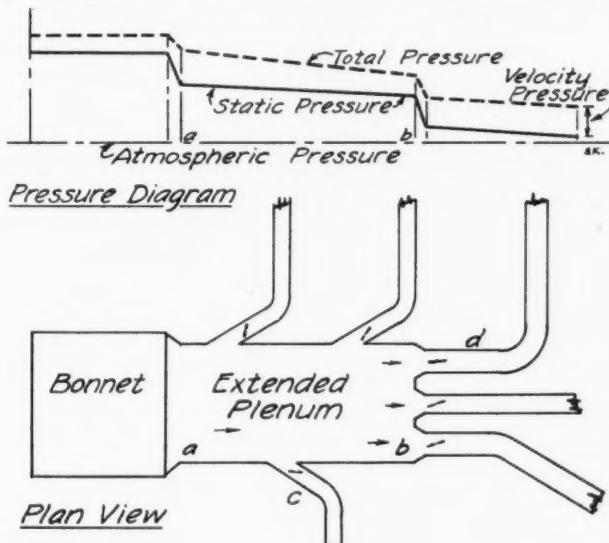

Fig. 2—Extended plenum duct system with simplified pressure diagram.
Sometimes the intake is not in the best position because of appearance. In the installation shown in Fig. 2 it was decided to place the intake below grade with a grille in the sidewalk of an alley. It was known that this would cause heavy dust conditions, but no other arrangement seemed suitable. The amount of dirt, soot, fumes from automobiles, cigarette stubs and other refuse which has entered the intake has been enormous. A fine mesh screen was placed at the entrance, the areaway has been swept clean every other day but after five years the primary heater coils have deteriorated so much from the unusual conditions that they must be replaced. When this is done, it is also proposed to elevate the intake as shown.
In view of the success attending this type of plenum chamber construction, it is not surprising that some installers have extended the idea still further. A diagrammatic plan view of the "extended plenum" duct system is shown in Fig. 2. It may be noted that instead of providing for a gradual reduction in the cross sectional area of the main trunk, the trunk is made of uniform size for some distance away from the bonnet. Since a greater quantity of air passes point (a) than point (b), the air velocity at point (a) must also be greater than that at point (b). In other words, the air velocity in the extended plenum will not be uniform and will be less at the outlet than at the inlet. Hence, the velocity pressure in the duct will tend to become smaller as the air moves down the extended plenum and part of the decrease will result in an increase in the static pressure. That is, the regain in the static pressure will result in a more uniform static pressure in all parts of the extended plenum. This is shown in the pressure diagram in Fig. 2. In fact, whatever success has been attained with this method of installation is probably due to the fact that the static pressure avail-
4. Any connection from the trunk duct to the bonnet (point *a* in Fig. 2) should preferably be of the tapered transition type in order to minimize the entrance losses that occur when the air flows from the bonnet into the extended plenum. It should be noted that in the case of an abrupt connection the relatively large losses at the entry may more than offset any reduction in the frictional resistance brought about by the use of the extended plenum.
5. This entry loss may also be of some significance in the case of the connections from the extended plenum to the individual branches. If, for example, duct (*c*) in Fig. 2 is very short, the combined frictional loss consisting of the:
If, for example, duct (*c*) in Fig. 2 should be the longest duct in the given system, the use of an abrupt connection from the trunk duct to the branch duct merely superimposes an additional and unnecessary resistance that requires an increased power consumption by the fan. Hence, as a general practice, the use of sharp, right-angled connections without transitions or turning vanes is not recommended. Such connections should be allowed only when the limiting conditions of frictional resistance are well recognized and accounted for. Otherwise, the home-owner is penalized during the entire life of the heating system for a frictional loss that could be easily avoided.